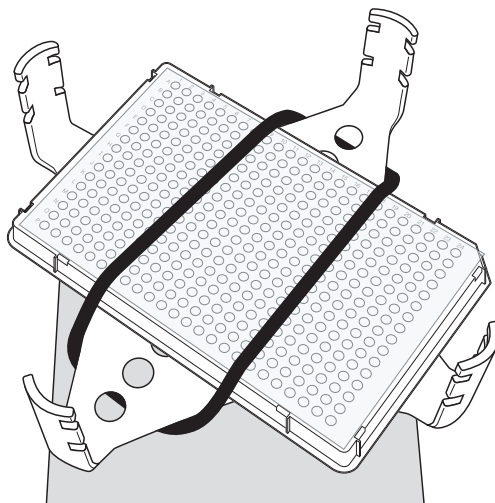

Figure 3 Elastic band position for 384-well plates with the recessed platform adapter
- For 384-well plates, see Figure 3 on page 49.